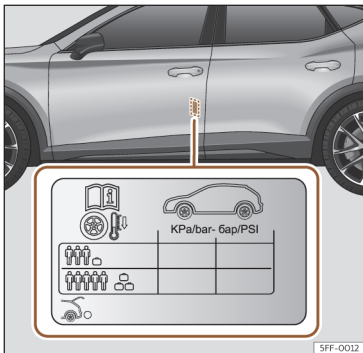

Fig. 223 Location of the tyre pressure sticker.
- Adjust tyre pressure to the load being carried by the vehicle»» **Fig. 223**.
The tyre inflation pressures are listed on a sticker on the rear of the front left door frame»» **Fig. 223**.
The tyre pressure must be adjusted according to the load the vehicle is carrying. If the vehicle is going to carry the maximum load, the tyre pressure should be increased to the maximum value indicated on the sticker »» **Fig. 223**.
In the case of a minimised temporary spare wheel (125/70 R18) inflate to a pressure of 4.2 bar as indicated on the tyre pressure label»» **Fig. 223**.
»» Fig. 223.
- »» Fig. 223.